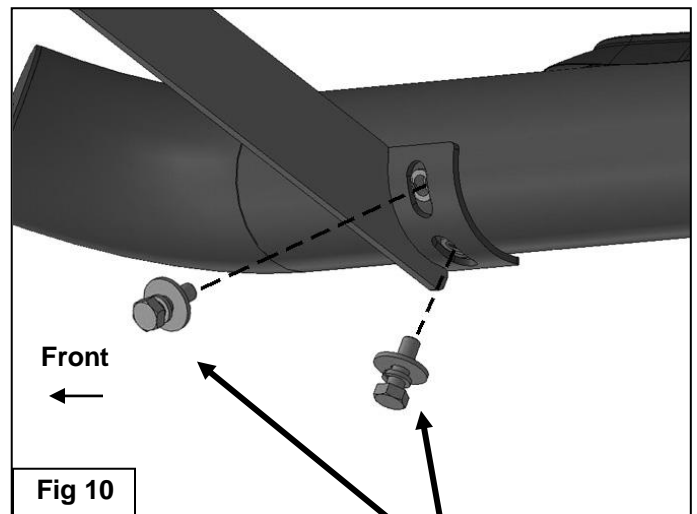

Fig 10
- Carefully position the passenger Sidebar onto the Mounting Brackets. **IMPORTANT:** Do not slide, (front to back or rotate), the Sidebar on the Brackets or damage to the finish may result. Attach the Sidebar to the Mounting Brackets with the included (6) 8mm x 25mm Combination Hex Bolts, **(Figure 10)**. Do not tighten hardware at this time.